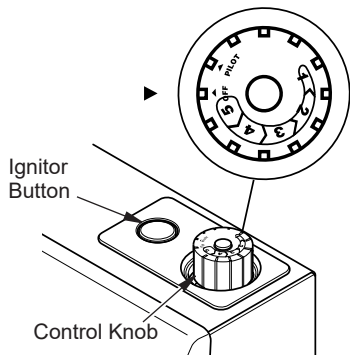

Figure 20 - Control Knob in the OFF Position
4. Wait five (5) minutes to clear out any air. Then smell for gas, including near the floor. If you smell gas, STOP! Follow "B" in the safety information above. If you do not smell gas, go to the next step.
5. Turn control knob counterclockwise ↻ to the PILOT position. Press in control knob for five (5) seconds (see Figure 20). *Note: The first time that the heater is operated after connecting the gas supply, the control knob should be pressed for about thirty (30) seconds. This will allow air to bleed from the gas system. If pilot does not stay lit, refer to Troubleshooting, pages 23 through 26. Also contact a qualified service technician or gas supplier for repairs. Until repairs are made, light pilot with match.*